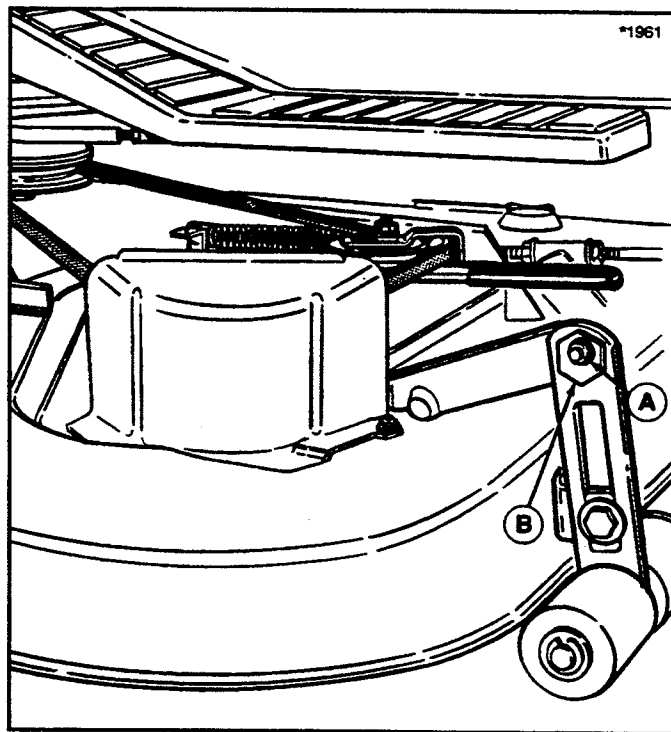

Figure 36. Leveling The Mower Side-To-Side
5. See figure 36. Loosen the outside nut (A). Turn the eccentric nut (B) to raise or lower left-hand side of mower. When mower is level, hold the eccentric nut while tightening the outside nut.